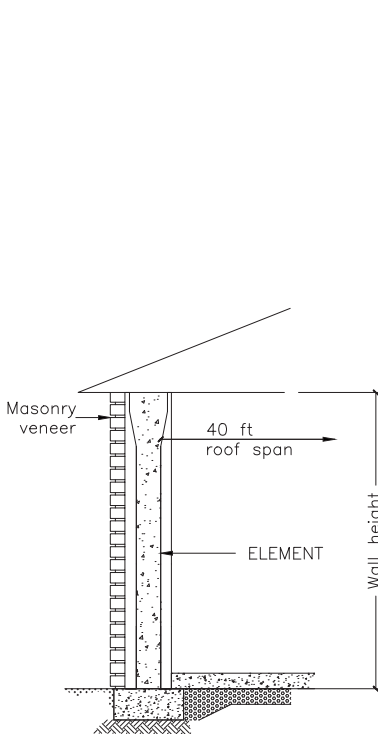

Fig 3A
- One storey Element supporting wood roof frame (Fig. 3A)
The above-grade tables shall be used in conjunction with the notes listed below, the building limitations noted in the "Reinforcement Tables" section, and Figures 3A to 3B, which form the basis of this table.